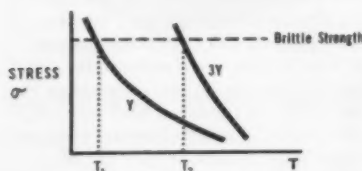

Fig. 1
presence of a notch may cause the brittle strength to be reached before flow can occur by yielding (4). The existence of a brittle strength for ferritic steels has been confirmed by the work of Eldin and Collins (5). Fig. 1, due to Orowan, indicates the situation schematically. Above temperatures T_2 the material is ductile with or without the presence of a notch. Below T_1 it is always brittle. The region between T_1 and T_2 is the transition region, where the material will be-